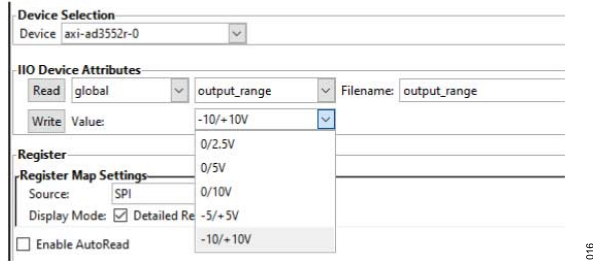

Figure 16. IIO Oscilloscope Configuration Panel
4. In IIO Oscilloscope, set the AD3552R DAC output ranges to ± 10 V and the input source to `dma_input`, as shown in Figure 16.